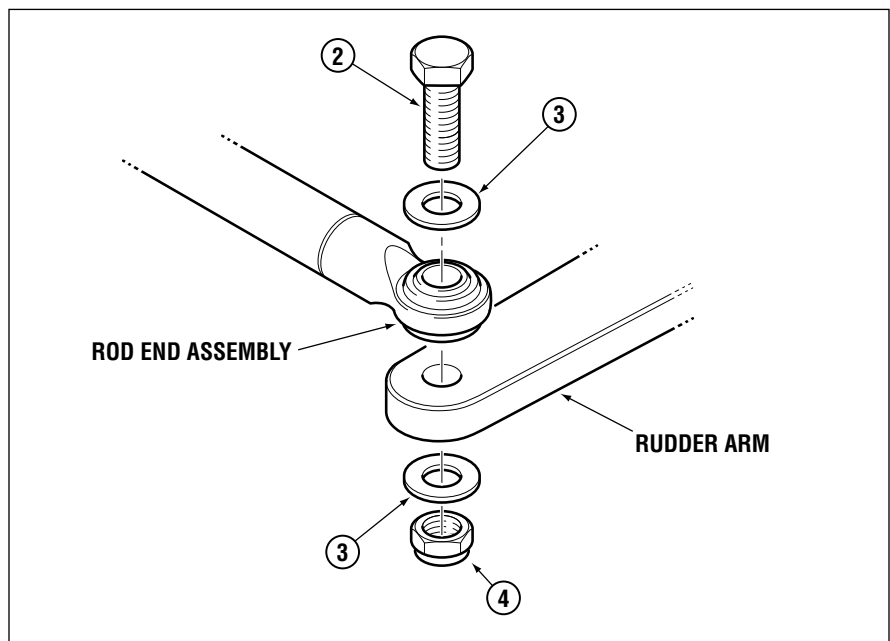
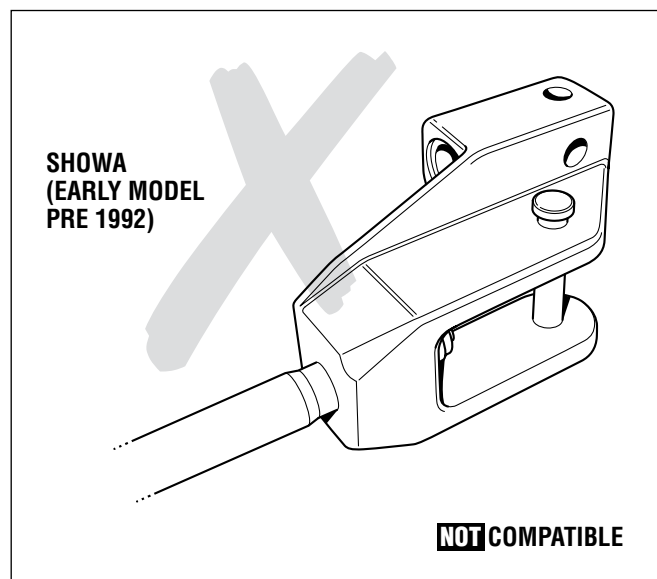

Figure 10. Attaching Rod End Assembly to Rudder Arm.
Figure 19.
3. Assemble 1/2" x 2-1/4" bolt (item 2) and washers (items 3) into rod end assembly and rudder arm, as shown in Figure 10.
4. Torque nuts (item 4, Figure 10) to 43 ft-lb (58.3Nm).
The SeaStar HC5331-3 steering cylinder is **NOT** compatible with some early model power steering rams. Although the cylinder will still mount to these rams, loss of articulation and possible damage to the steering ram may result. Please identify your power steering cylinder by comparing your clevis bracket to the 4 drawings shown below. The HC5331-3 **IS** compatible with units identified by figures 10 to 12, it is **NOT** compatible with the clevis bracket shown in figure 19.